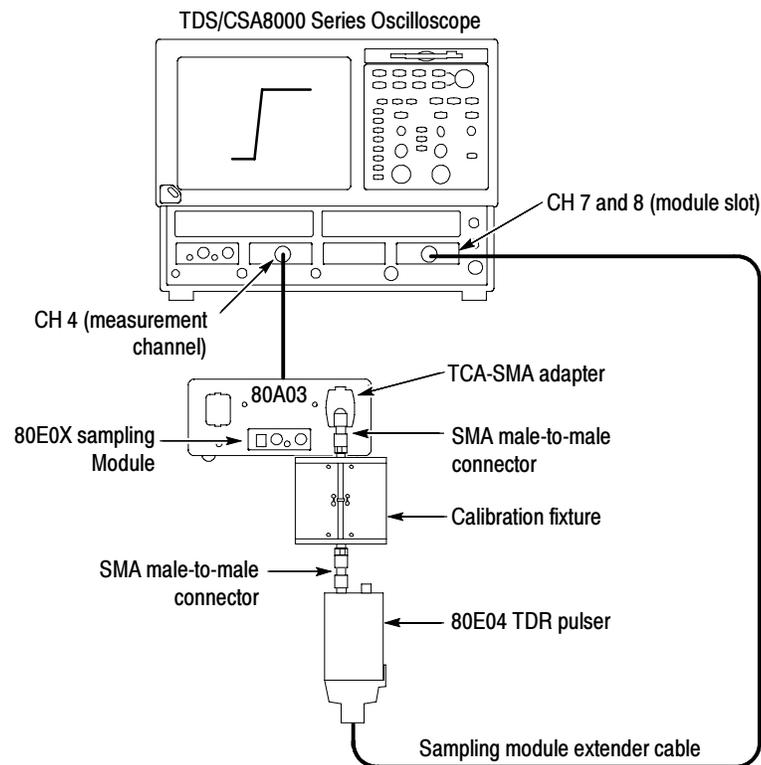

Figure 24: Test system rise time setup
2. Connect the test equipment as shown in Figure 24. A sampling module extender cable is used with the TDR pulse generator to minimize cable loss problems.
7. Adjust the oscilloscope horizontal and vertical position controls to display a signal similar to that shown in Figure 24.